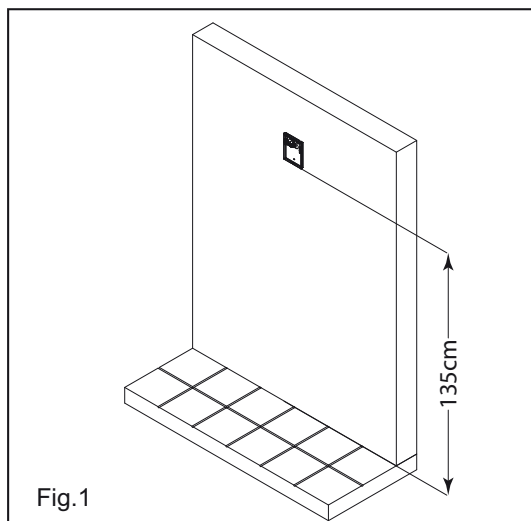
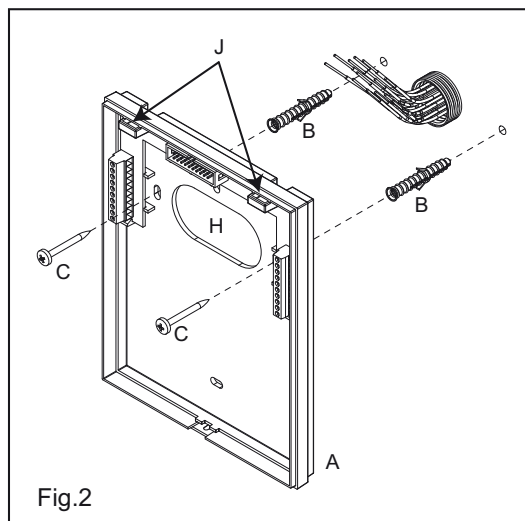

Fig.1
Fig.2
- Put the bottom "A" against the wall at 135cm from the finished floor (Fig.1). All cables must be fed through hole "H" (Fig.2).
- Leaving approximately 135cm from the finished floor, fit the bottom "A" against the wall and mark the fixing holes considering that the cables must be fed through the opening "H" (Fig.2)
- Make the holes, and fix bottom "A" on the wall using the two wall plugs "B" and the two screws "C" as shown in figure 2.